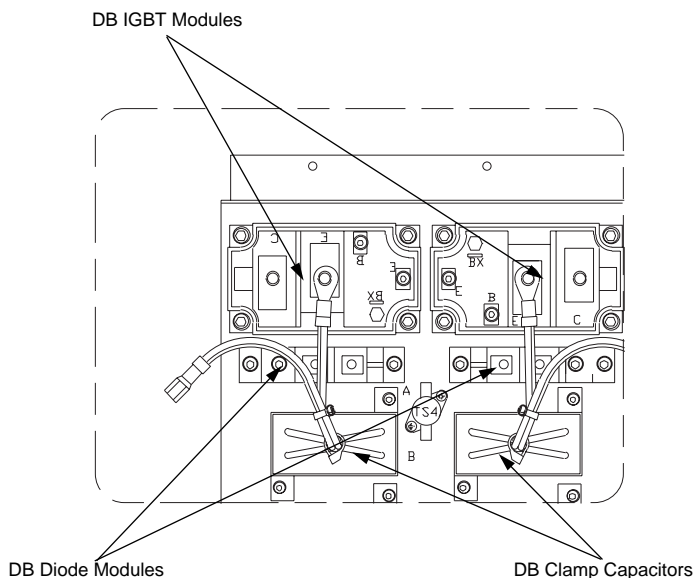

Figure 4.3.32: DB IGBT Modules (Drive Controller ATV66C28N4 and ATV66C31N4)
2. Place the new IGBT module on the heatsink following the orientation illustrated in Figure 4.3.32 on page 4.3.51 and secure it with four hex head screws. Initially tighten the four mounting screws, in the sequence shown at side, to 6.0 to 9.0 lb-in (0.7– 1.0 N•m) with a final torque of 27 lb-in (3.0 N•m).